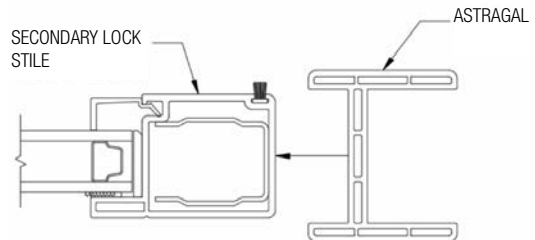

FIG. 20
- E) Apply the astragal to the secondary stile. The secondary stile will fit into the shallow pocket on the astragal (FIG. 20). Center the astragal vertically in opening. There should be an approximate ¼" gap between the astragal and the head & sill. The square cut-out on the astragal will go towards the bottom of the panel near the roller adjustment screw (FIG. 21).